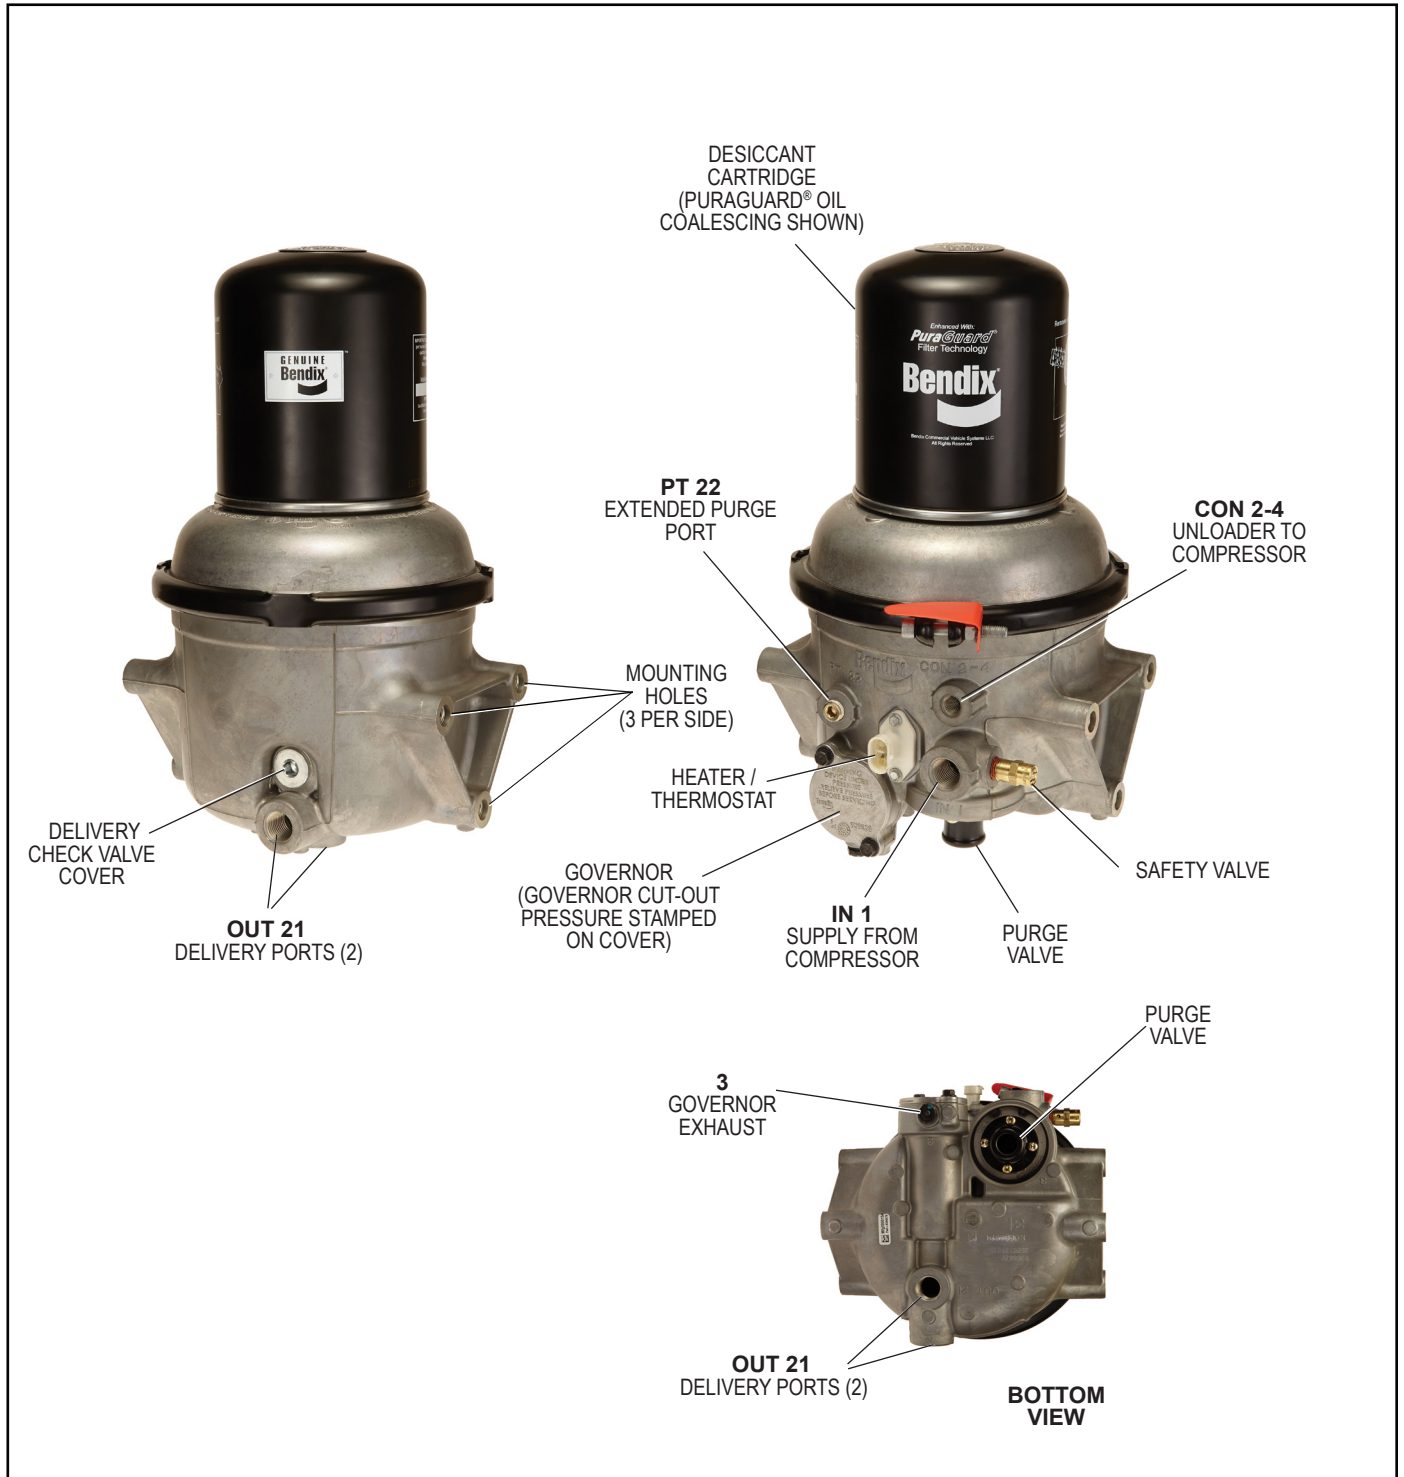

FIGURE 1 - BENDIX® AD-9si™ AND AD-9si™ PURAGUARD® OIL COALESCING AIR DRYER
2. Check the Bendix® AD-9si™ air dryer and mounting bolts for tightness. See *Figure 1*. Re-torque the three air dryer bolts to 720–912 in-lbs.